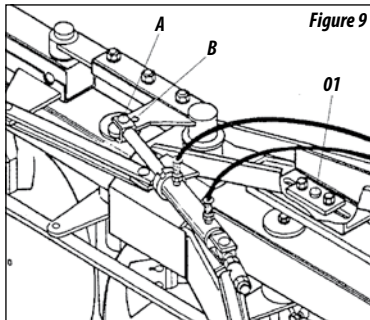

Figure 9
- 02 - In soils with excess straw or crop remnants, which hinder the furrow opening, you should reduce the cutting angle on the discs by moving the cursor item 1 Fig. 9 forward.
- 03 - To work in loose soils (soft), you should use a small cutting angle on the discs. In hard soil, the cutting angle of discs must be higher, and the cursor, item 1, may be moved backwards.
- 04 - To increase the cutting width, you must put pin in hole "A", thus decreasing the angle as in Fig. 9. By putting the pin in hole "B", the angle increases and the cutting width decreases, as shown in FIG. 9.